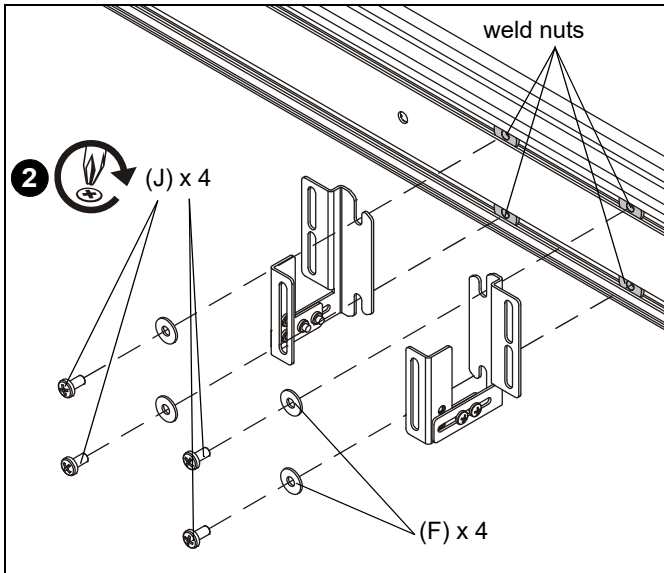

Figure 4
2. Attach configured brackets to weld nuts using four 1/4-20 x 1/2" Phillips pan head screw (J) and four 1/4" flat washers (F) into installed weld nuts (E). (See Figure 4)